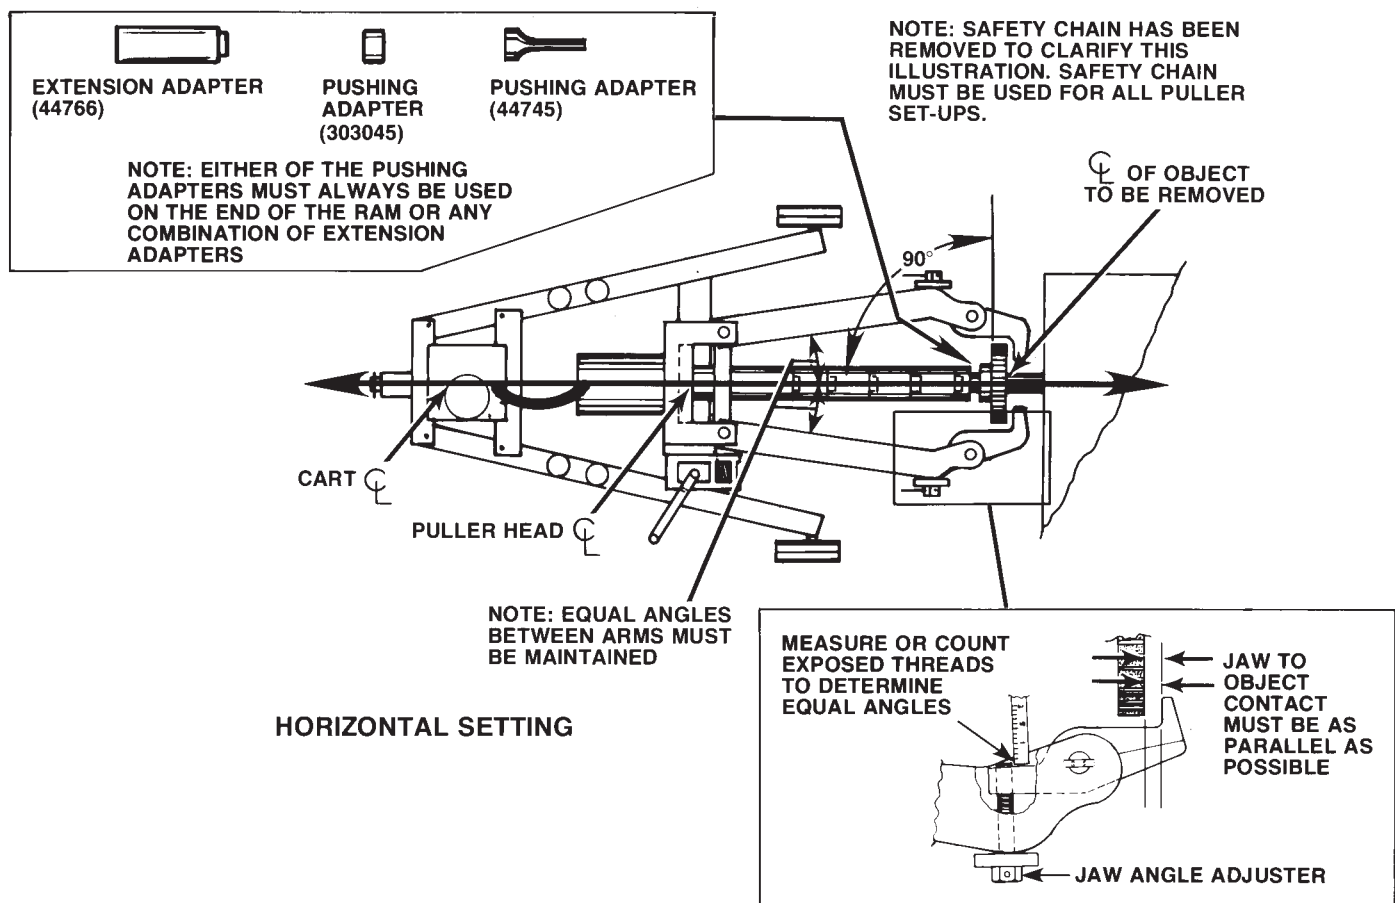

FIGURE 12
HORIZONTAL SET-UP: See Figure 12
1. Adjust the horizontal by positioning the puller cart as shown in Figure 12. The centerline of the object being removed must be at a 90° angle to the flat surface of the jaws and on the same centerline as the puller cart and the puller head.
JAW and ARM ADJUSTMENT: See Figure 12 Inset
1. Move the puller arms inward to a minimum width of 15" or outward to a maximum width of 48". In all adjustments with the arms, maintain equal angles between the arms as shown in the Figure 12 inset. **Note: If the jaw contact area is flat and even on the object being pulled, an equal amount of threads visible on each screw shaft would indicate an equal angle between both arms.**